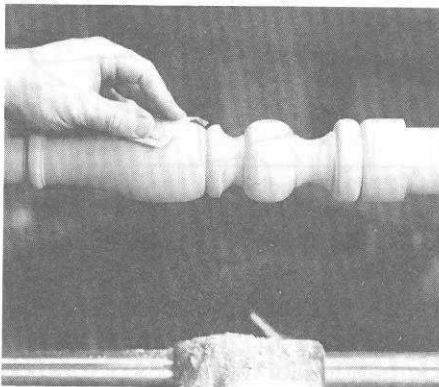

Figure 9. Sanding.
b. Start with medium sandpaper. Double the sandpaper over several times to protect your fingers. Begin to sand by holding the sandpaper lightly against the stock. Work your way through progressively finer grits. (See Figure 9.)